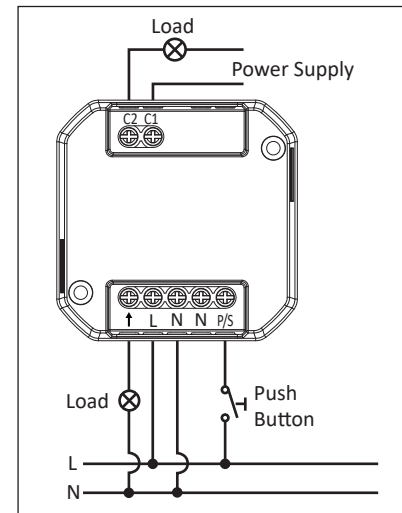
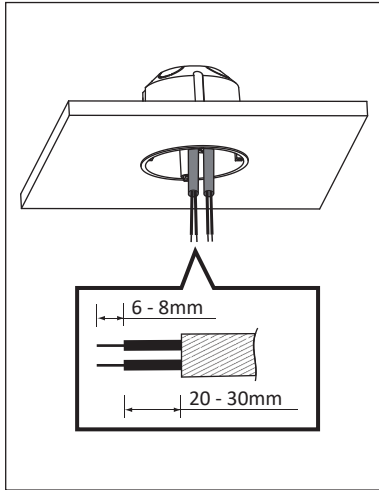
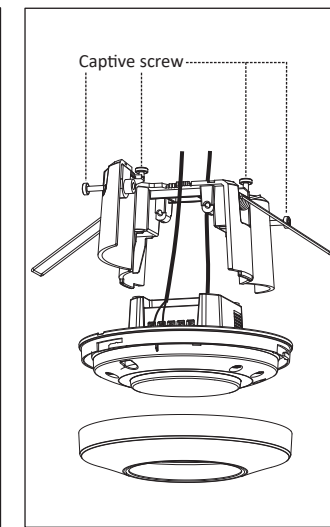
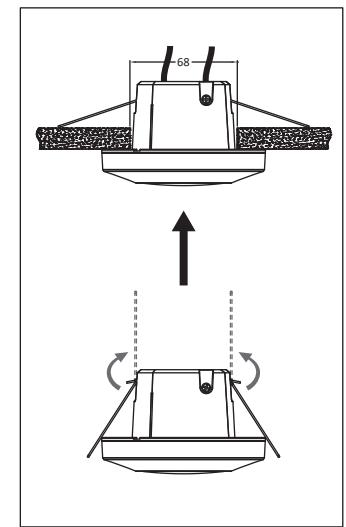

FIG.1
FIG.4
FIG.7
FIG.8
2. Strip between 6 - 8mm of cable sheathing for wiring. (See FIG.4). Please refer to illustration of FIG.1~3 for correct wiring connections.
2. Please refer to illustration of FIG.8 for correct installation, and fix the flush mount spring clips to the detector with 2pcs captive screws. (See FIG.7)
3. Please refer to illustration of FIG.1~3 for correct wiring, and then tighten the flush mount access sides with 2pcs captive screws. (See FIG.7)
4. Raise the two spring clips, and insert the detector into the drilled hole on ceiling. (See FIG.8)
4. Refer to wiring diagrams for correct wiring connection (See FIG.1~3) and fix the detector into on to the surface mount box with 2pcs captive screws. (See FIG.13)